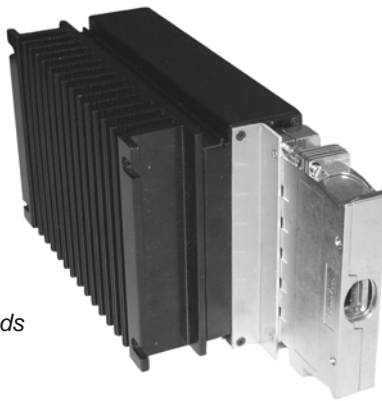

Fig. 49
- Chassis or wall-mounting plate K02 (HZZ01213-G) for models with option B1. Mating connector (HZZ00107-G) with screw terminals; see fig. 49